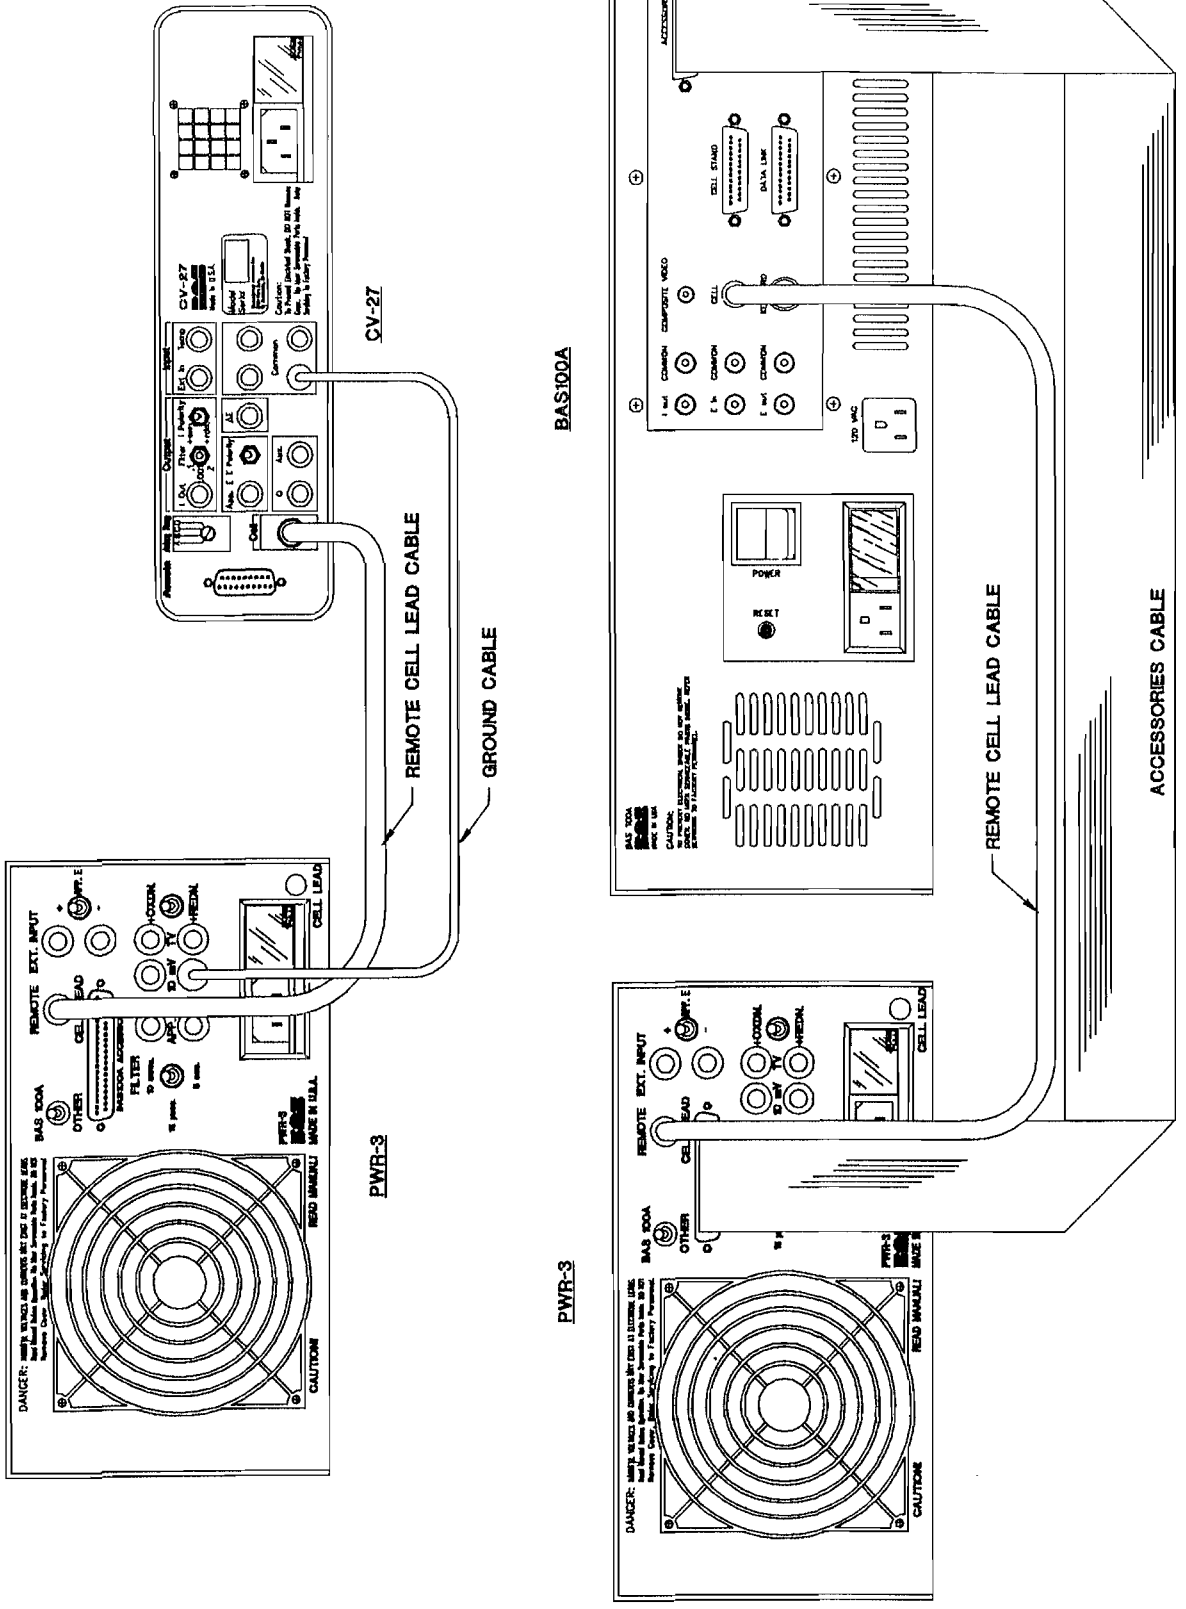

FIGURE 2.4. CONNECTION OF THE PWR-3 TO THE BAS100A OR CV-27.
- Figure 2.4 Connection of the PWR-3 to the BAS 100A
A 37 pin ribbon cable allows the BAS100A Electrochemical Analyzer to control the PWR-3. This plugs into the appropriately labelled accessory jacks on both units; see Figure 2.4. The pin line assignments are shown in Figure 2.5.
The PWR-3 receives the potential waveform and sends a current proportional to the total current through this connector to the BAS 100A Electrochemical Analyzer or CV-27 Voltammograph. The cable has the male connector on both ends and plugs into the labelled CELL LEAD jacks on the BAS 100A or CV-27. This is illustrated in figure 2.4
To drive the PWR-3 with either the CV-27 or BAS100A, connect the CELL LEAD outputs with the special cable; see figure 2.4. To use the PWR-3 with the BAS100A, the 37 pin control cable must also be connected; see Figure 2.4